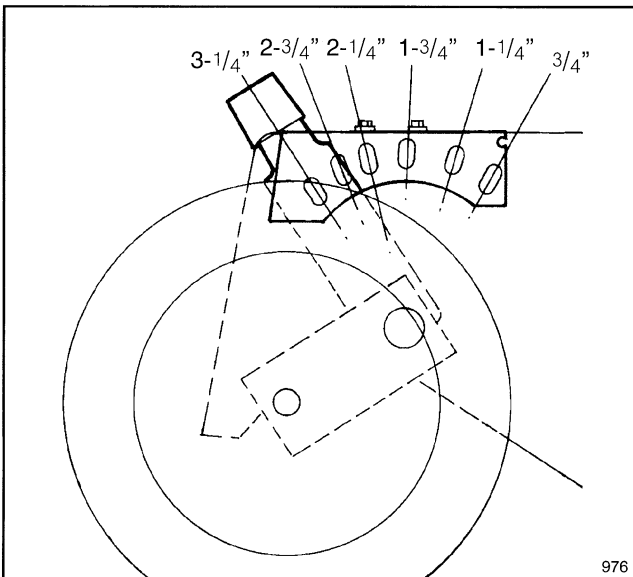

Figure 9
- Grass grows at different rates at different times of the year. In the heat of the summer, it is generally best to cut grass at the 1-3/4", 2-1/4" or 2-3/4" height-of-cut settings (Fig. 9). Only about 1/3 of the grass blade should be cut off. Cutting below the 1-3/4" setting is not recommended unless grass is sparse or it is late fall when grass growth begins to slow down.